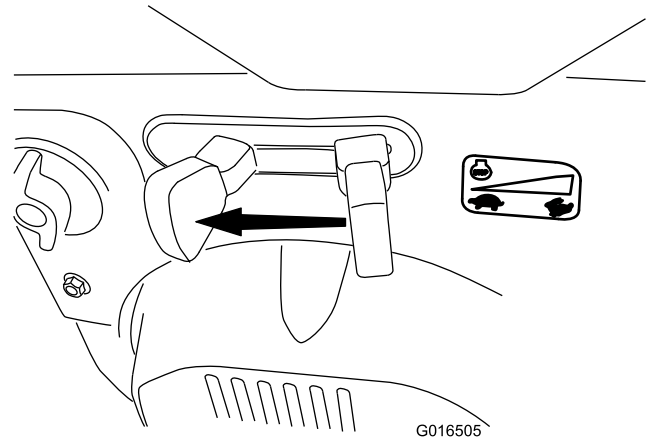

Figure 24
1. Move the throttle to the SLOW position, and then to the STOP position (Figure 24) to shut off the engine. You can also shut off the engine by pulling the ignition key outward to the middle position.